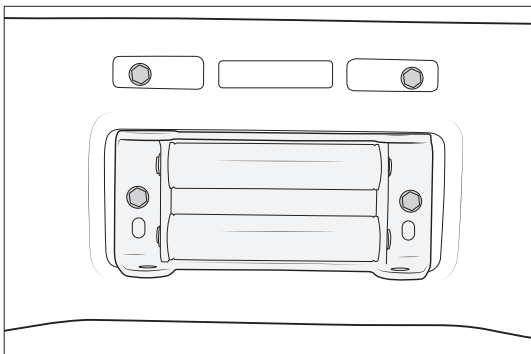

Figure 23
9. Place the winch assembly into the bumper center section. Secure through the front using the factory hardware Note: You will need to remove the side rollers from the fairlead for access (fig. 23).